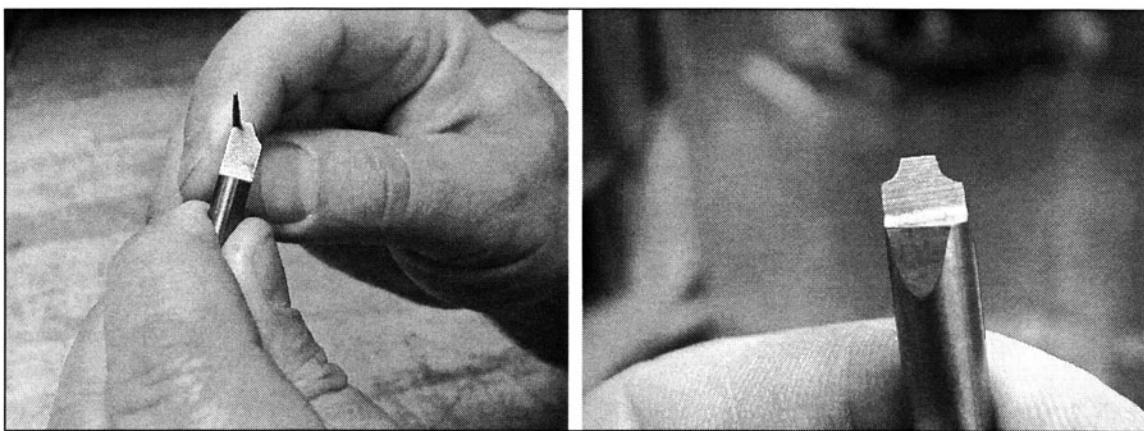

FIGURE 7-12 An outside radius cutter is filed to size using a round diamond file.
13. *Use a round diamond file to make small, outside radius cutters. (See Fig. 7-12)*